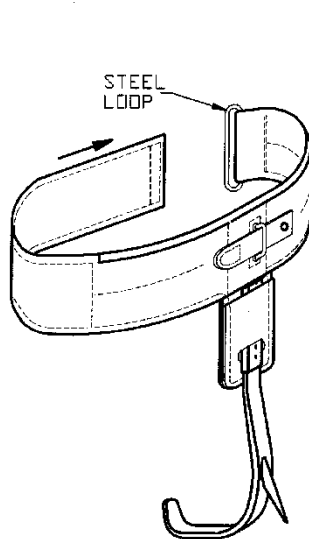

Fig. 3
3. To secure the pad to the leg, begin by threading the free end of the pad through the steel loop (Fig. 3).